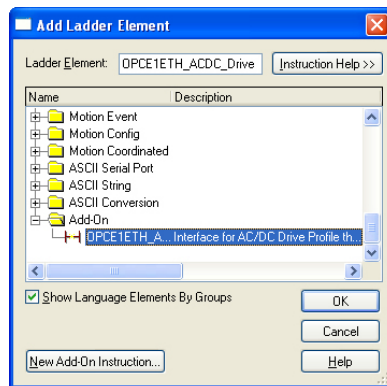

Figure 97: Add AC/DC Drive Profile Add-On Instruction
- 8) Select the AC/DC drive profile add-on instruction in the Add-On folder. Refer to Figure 97.